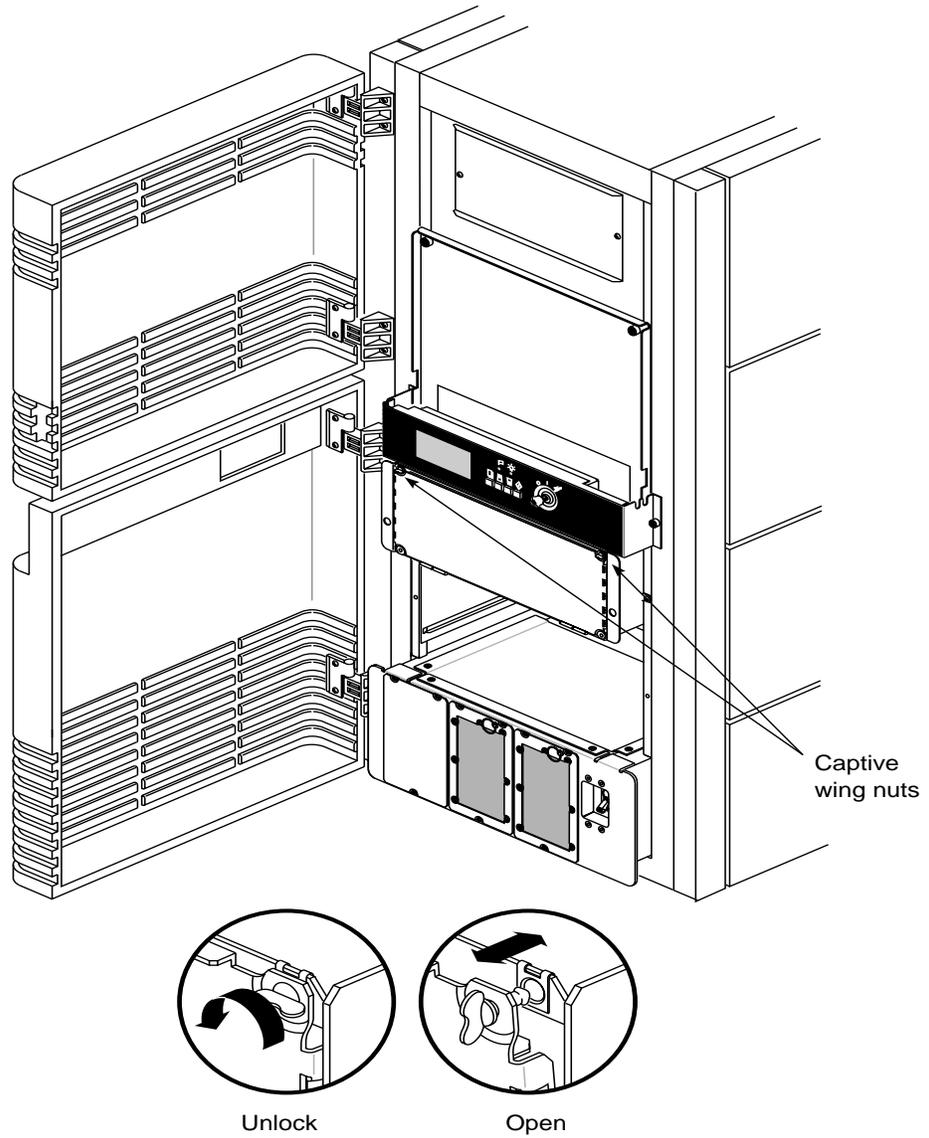

Figure 3-8 Opening the SCSIBox
3. Release the two captive wing nuts securing the SCSIBox door and allow the door to swing down (see Figure 3-8).